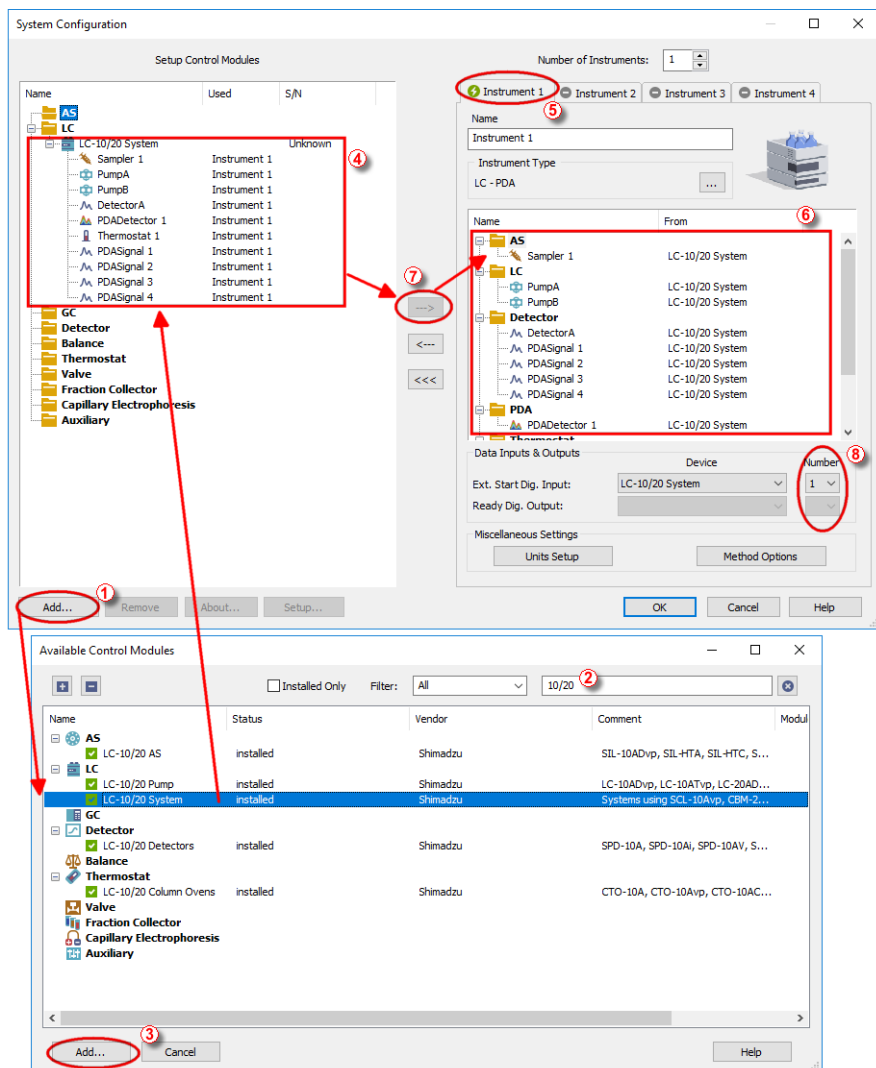

Fig 3: System Configuration
- Press the **Add** button ① (see **Fig 3** on pg 8.) to invoke the **Available Control Modules** dialog.
- You can specify the searching filter ② to simplify the finding of the driver.
- Select the **LC-10/20 System** item and press the **Add** ③ button.